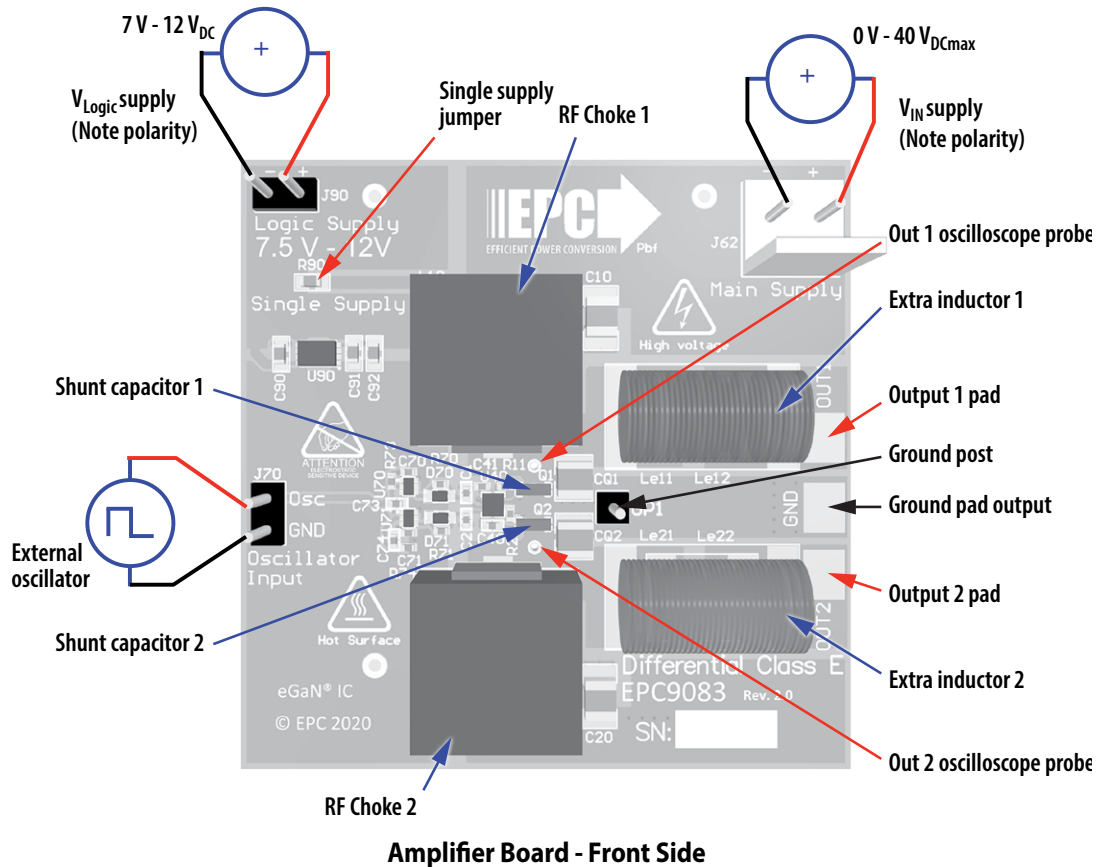

Figure 5: Proper connection and measurement setup for the amplifier board
2. With power **off**, connect the **main** input power supply bus to J62 as shown in figure 5. Note the polarity of the supply connector. Set the voltage to 0 V.
3. With power **off**, connect the **logic** input power supply bus to J90 as shown in figure 5. Note the polarity of the supply connector. Set the voltage to between 7 V and 12 V.